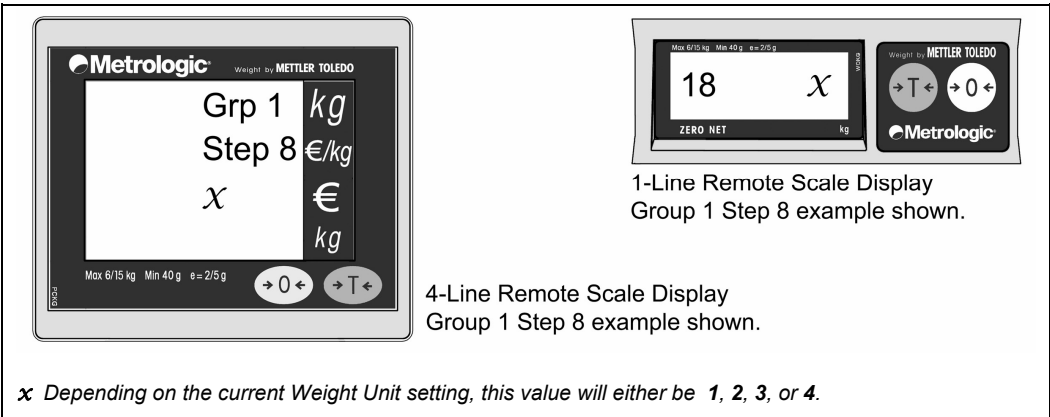

Figure 45. Remote Scale Display Group 1 Step 8 example shown
5. Go to **Group 1 Step 8** (Weight Unit) of the Service Mode by pressing the Zero (→0←) key several times until 'Group 1 Step 8' is displayed on the Remote Scale Display screen (see Figure 45 below).